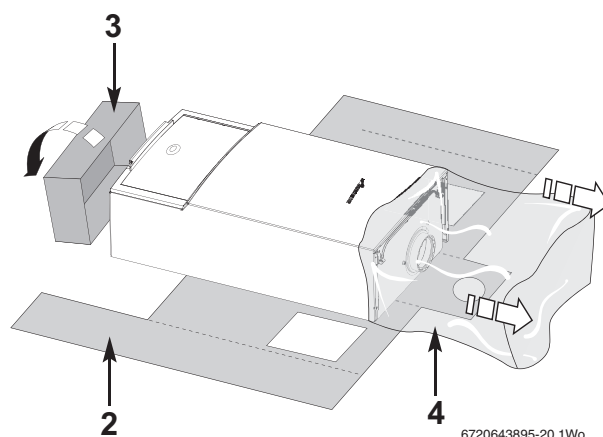
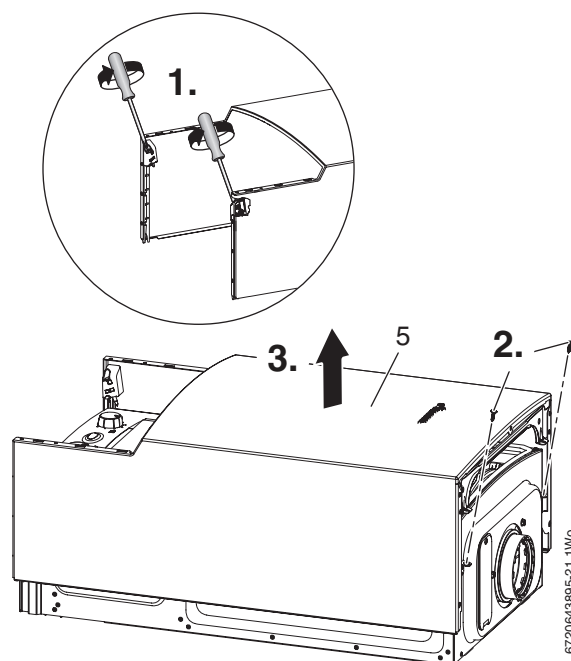

Fig. 25 Remove packaging
Fig. 26 Outer case screw removal
► Remove outer carton (1) and place safely away from the working area.
► With the outer packaging removed and the inner sleeve (2) still in place gently lay the boiler on its back.
► The boiler will lie at an angle to the floor to allow the boiler outer casing (5) to be removed.
► The inner sleeve (2) opens as shown in figure 25.
► Remove the protective wrapping (4).
2. Undo the two screws at the top (see fig. 26).
3. Remove the outer case (5).
► Remove any packaging within the boiler and the packaging base (3).